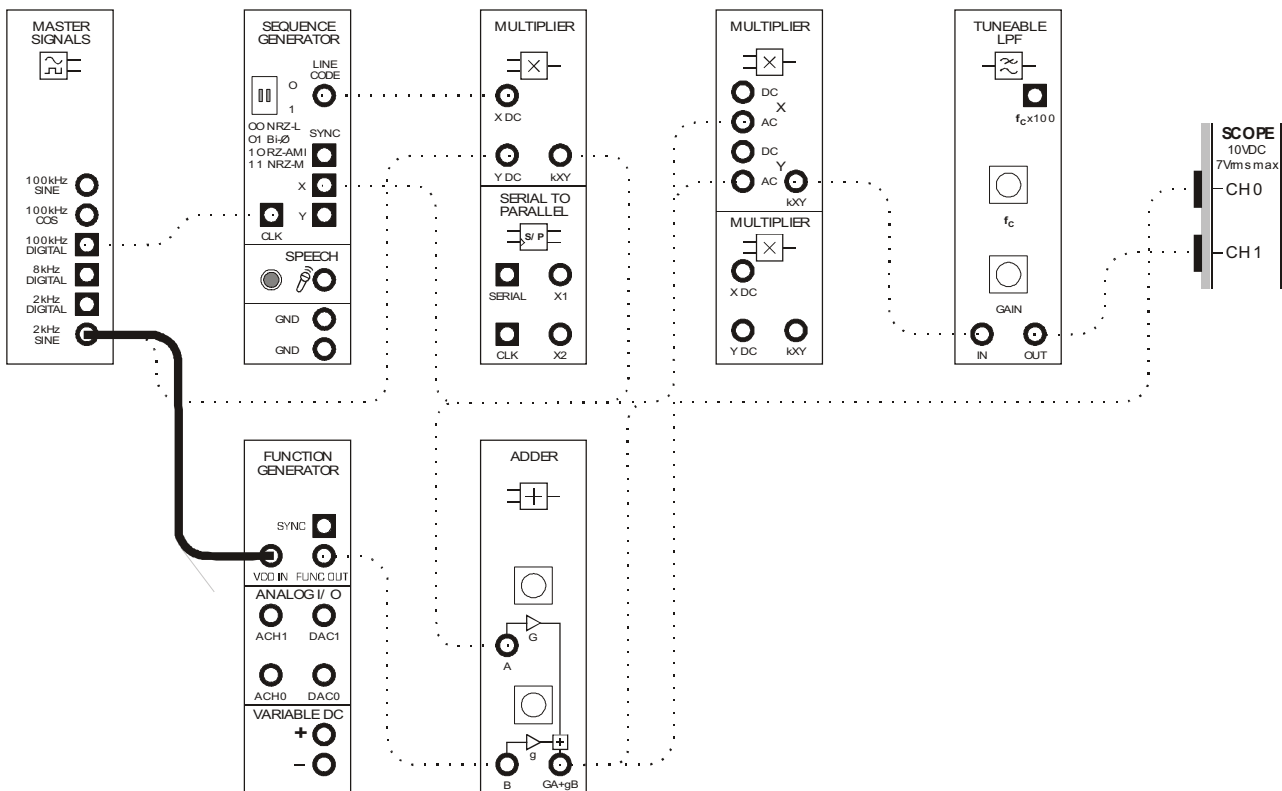

Figure 11
53. Modify the set-up as shown in Figure 11 below.